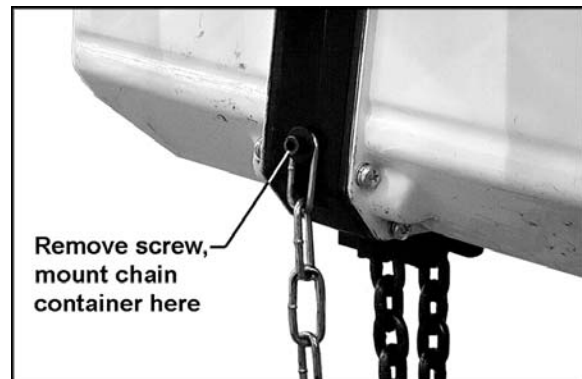
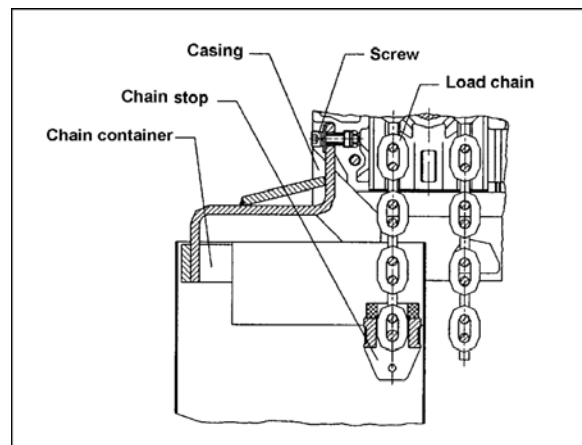

Figure 8
Figure 9
4. Remove the screw and washer holding the end chain to the hoist (Figure 8). Mount the bracket of the chain container in that location as shown in Figure 9.
5. Put the chain stop into the container (Figure 8), and operate the hoist to bring the load hook up until the upper limit switch is tripped.